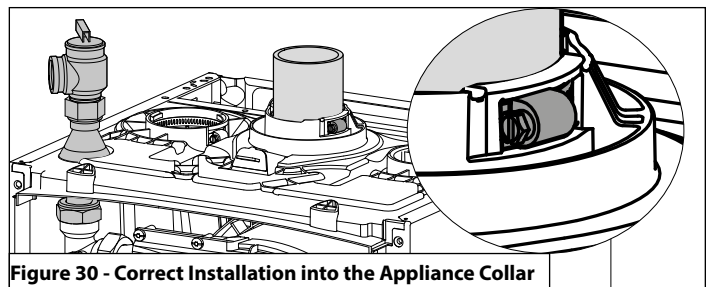

Figure 30 - Correct Installation into the Appliance Collar
**Follow the steps to install exhaust vent pipe into the boiler vent collar. See Figure 30 for additional details.**